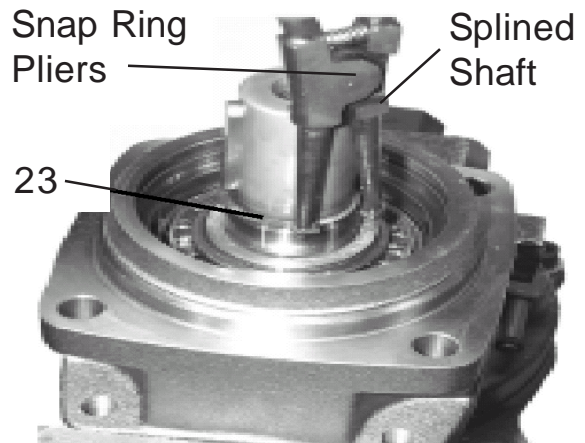

Figure 22
**6.** Install Bearing Retaining Ring. This is an external snap ring (item 23). Use snap ring pliers to slide snap ring down over shaft. (See Figure 22). Check Bearing load after snap ring is installed to make certain shaft has zero end play with bearings, If end play is not correct, the snap ring will need to be removed and the quantity of spacer washers will have to be changed.